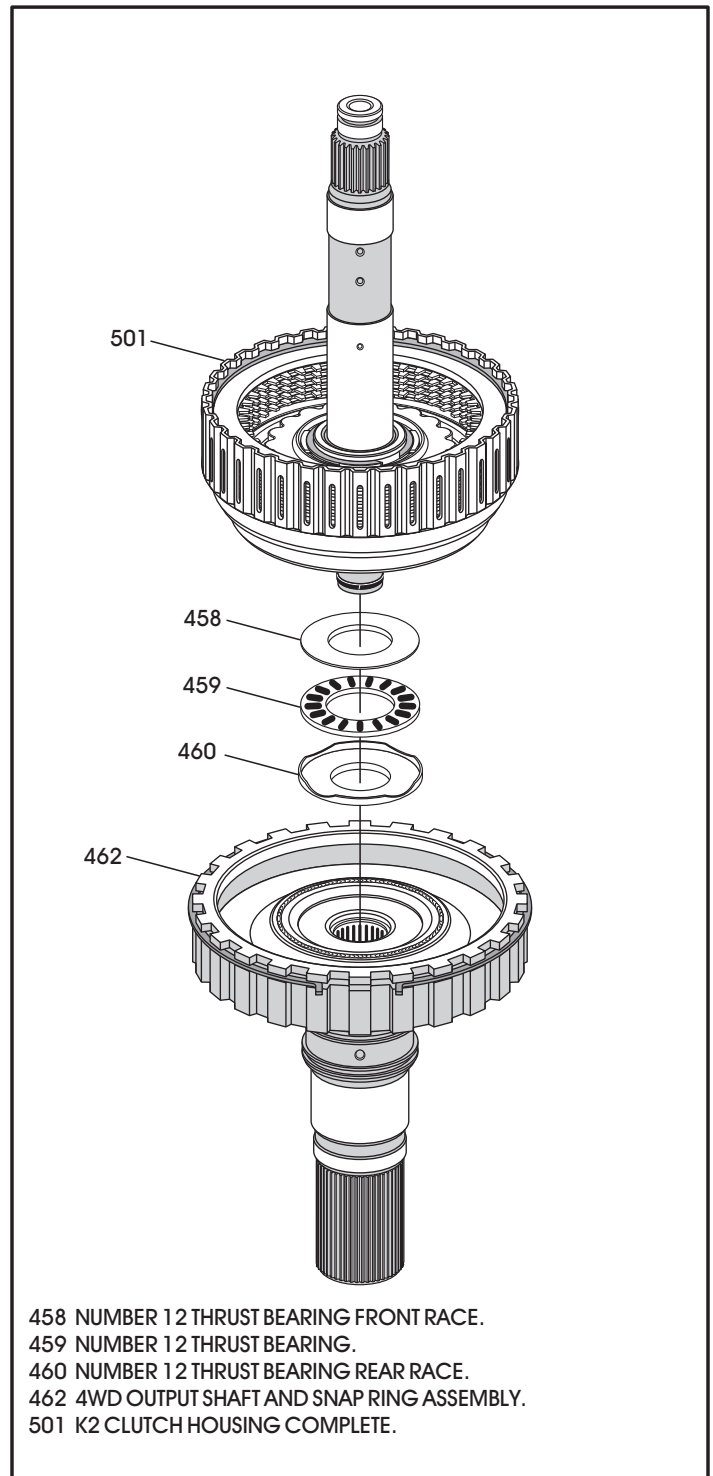

Figure 70
64. Separate the output shaft, rear planetary ring gear and K2 clutch housing, as shown in Figure 70, and set aside for the component rebuild process.